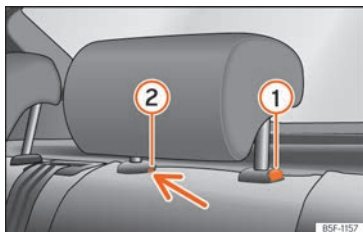

Fig. 106 Rear headrest: removal.
- Press button » Fig. 106 ①, while simultaneously pressing on the security hole ② with a flat screwdriver a maximum of 5 mm wide, and remove the headrest.